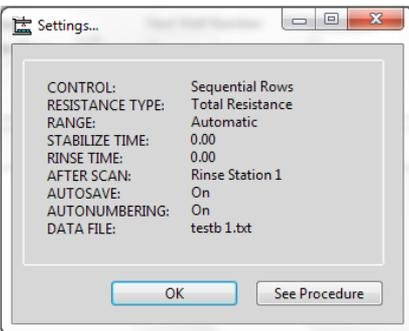
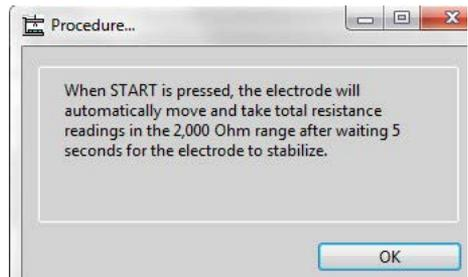

Fig. 18 — When you press the Settings button, a window displays showing a summary of your current setup.
Fig. 19 — The Procedures window describes the programmed action.
**Settings**: Press this button to see a snapshot of the current data collection and storage settings (Fig. 18). Pressing **See Procedure** on this window brings up a short summary of what is happening on the active read (Fig. 19).